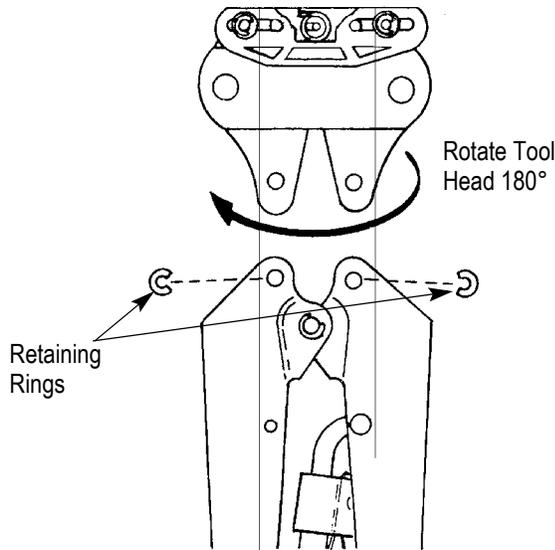

Figure 2
*To reverse the tool head for individual preference of using the tool with either hand, first remove the retaining rings and pins from the ends of the handle. Turn the head 180\_ as shown in Figure 2; then re-assemble.*